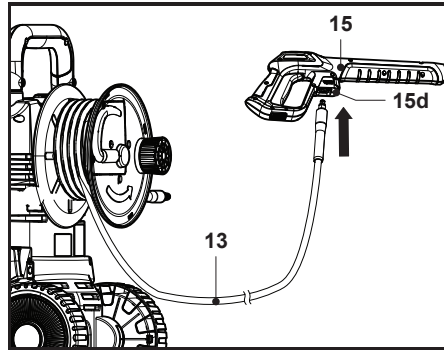

Fig. 7
1. Gently tug on the pressure hose (13) to pull it out. We suggest fully unwinding the pressure hose (13) before operation.
2. Push the tip of the pressure hose (13) into the hose connector (15d) on the spray gun (15) until the end with a click (Fig. 7).